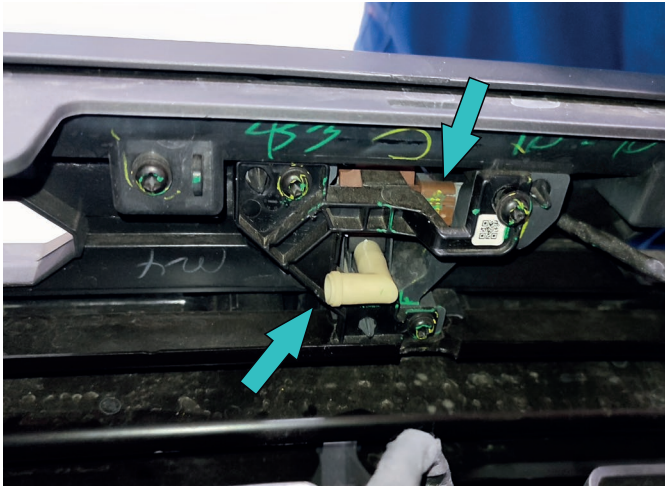

Fig.13
13. Disconnect the front camera washer tube and disconnect the front camera (fig.13).